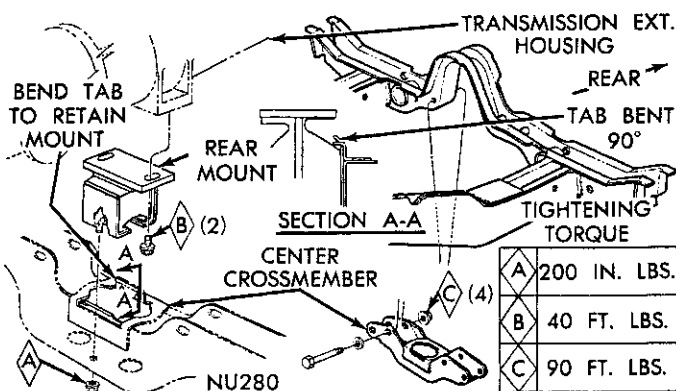
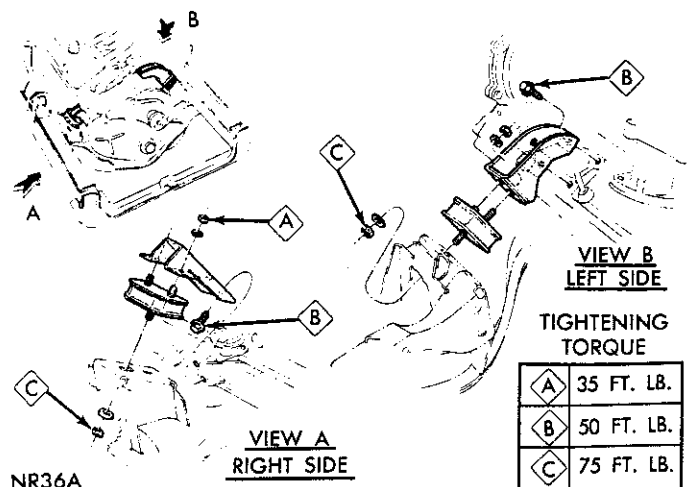

Fig. 4—Engine Rear Support—Dart
Fig. 6—Front Engine Mounts—Dart
- (13) Remove engine rear support crossmember (Figs. 4 and 5).
- (14) Remove transmission bolts from clutch housing.
- (15) Remove transmission.
- (16) Lower vehicle.
- (17) Install engine lifting fixture Tool C-3804 to cylinder head and attach a chain hoist to fixture eyebolt.
- (18) Remove engine support fixture.
- (19) Remove front engine mount bolts (Figs. 6 and 7).
- (20) Lift engine from engine compartment and install in engine repair stand.